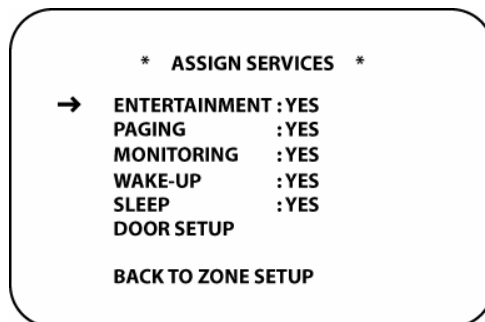

Figure 101 Assign Services Screen
1. From ZONE SETUP PAGE 1, with the cursor next to ASSIGN SERVICES press the **Set Button**. The ASSIGN SERVICES screen will appear. (Figure 101)